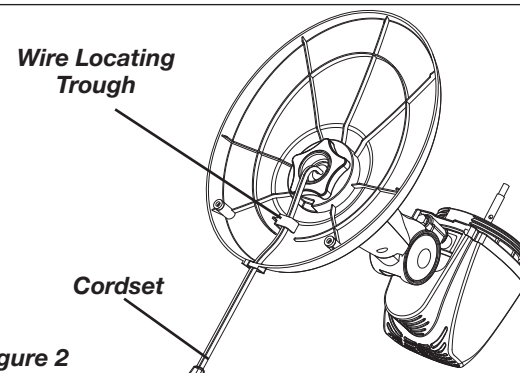

Figure 2
2. Gently pull any excess slack of the *Cordset* and place it in the *Wire Locating Trough*. (Figure 2)